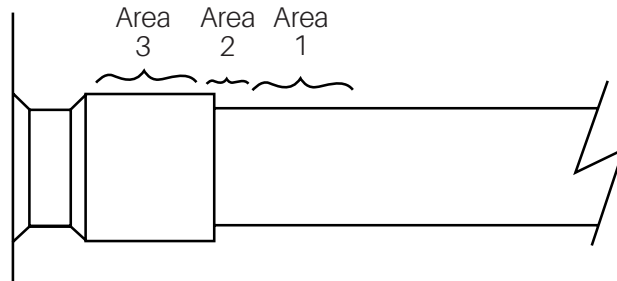

Figure 1. Scroll tube brazing
5. Apply heat in Area 1. As tube approaches brazing temperature, move torch flame to Area 2 (see figure 1).
4. Heat tube uniformly in Area 1, moving slowly to Area 2. When joint reaches brazing temperature apply brazing material (See Figure 1).